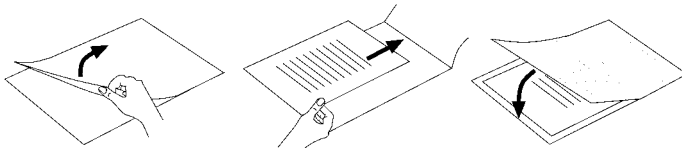

Fig. 2
- ▶ Make certain that you use only one pouch for laminating. First flip it up, as shown in Fig. 2.